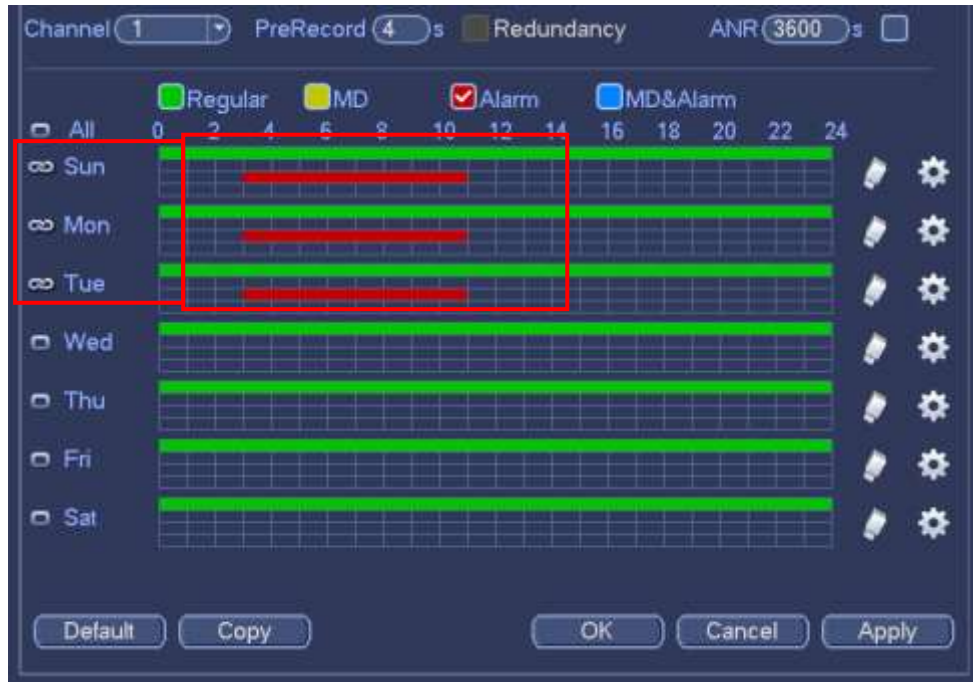

Figure 4-62
- Please draw manually to set record period. There are six periods in one day. See Figure 4-62.